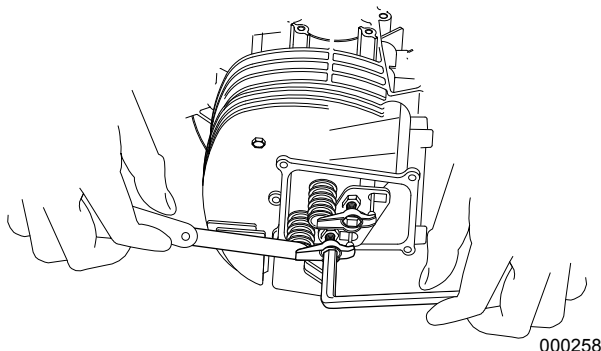

Figure 5-13. Adjusting Valve Clearance
1. See Figure 5-13. Loosen rocker arm jam nut. Turn pivot ball stud while checking clearance between rocker arm and valve stem with a feeler gauge.